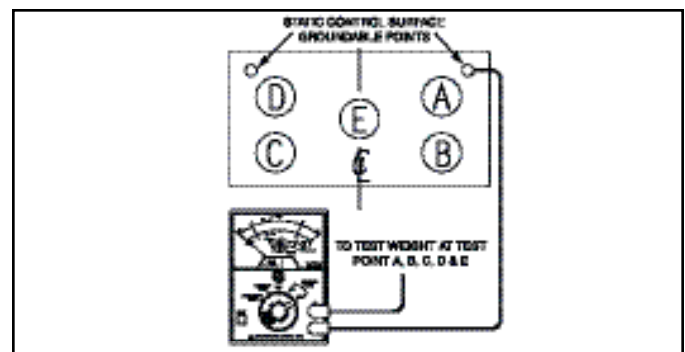

Figure 5. Qualification Tests of Installed Surfaces.
- B. Set the SCS 701 Analog Surface Resistance Megohmmeter Kit on a table top or other stable surface and place a test weight at the desired test point as shown in Figure 5. Connect the test leads to the meter using the right angle banana plugs at the meter. Then connect one of the test leads to the test weight and the other to the ESD GROUND using one of the supplied clips.
[Measurement of resistance of the top surface to the groundable point of the static control surface (RTS-GP)]. GROUNDABLE POINT is the point at which the grounding conductor is connected to the static control surface; the GROUNDABLE POINT is most commonly a snap (mats), a bolt (laminate), or a strip of conductive foil tape (flooring). This QUALIFICATION measurement is similar to those described in the test description section and is used to verify the correct installation of the GROUNDABLE POINT by the manufacturer or by the user. While the test procedure is the same, the test setup is slightly different; see Figure 5.